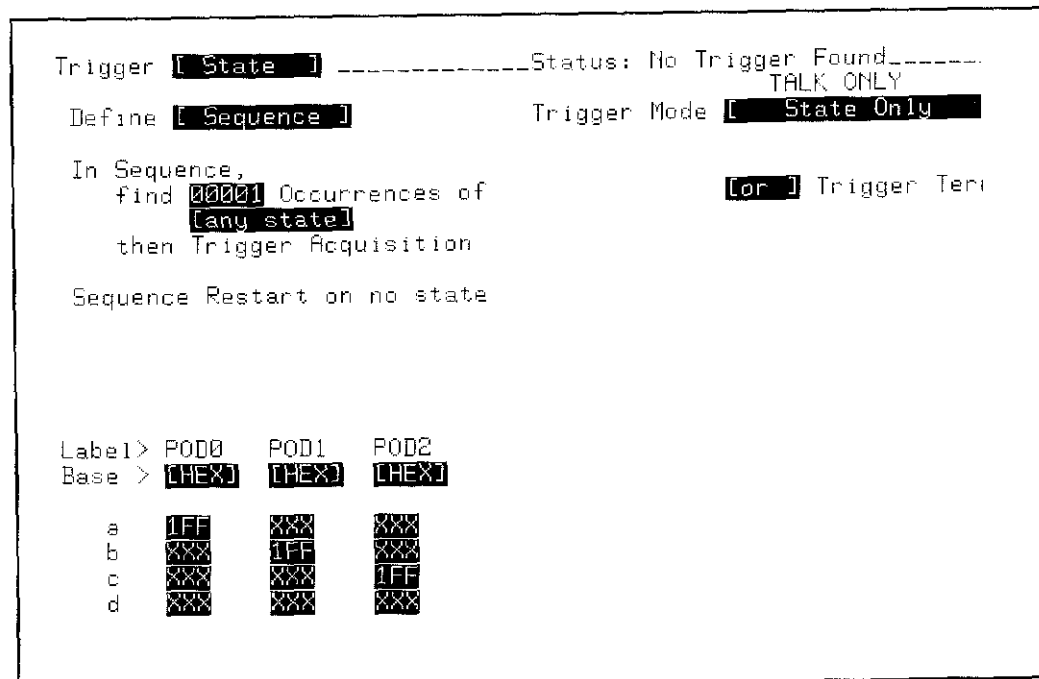

Figure 3-31. TRIGGER State / Define [Sequence] Menu
5. Configure the TRIGGER State / Define [Sequence] menu as shown in figure 3-31.